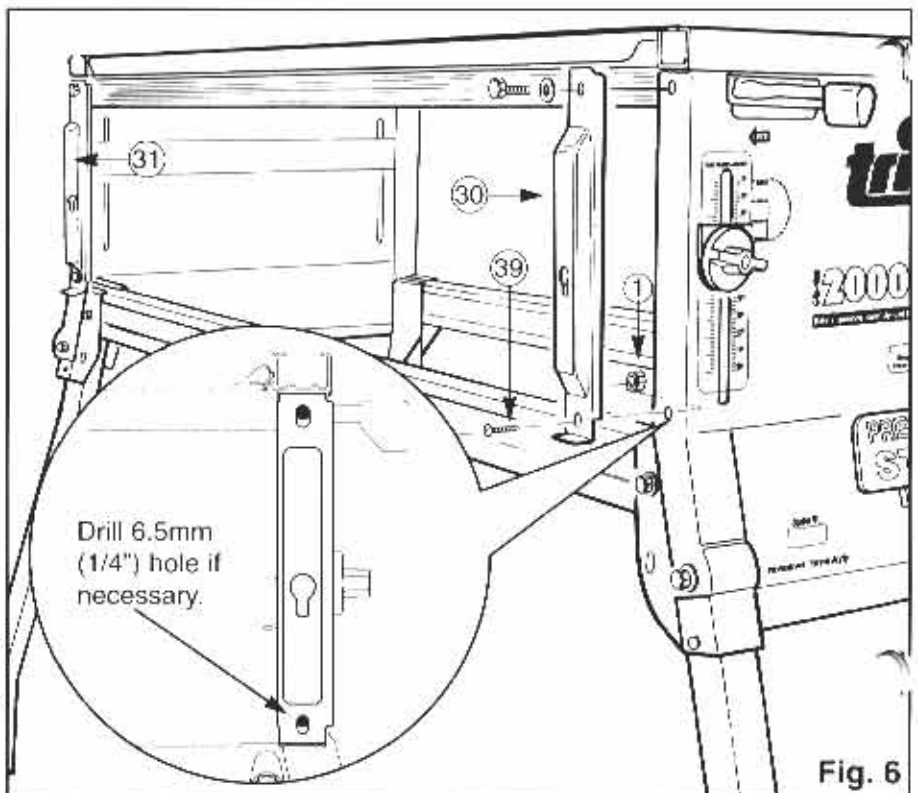

Fig. 6
Fit the End Panel Brackets (30) and (31) to the left-hand side of the Workcentre (when viewed from the front panel, which has the switchbox). The brackets are handed... the long edge flanges should wrap around the faces of the end panels. See Fig. 6.
Note: if you have a MK3 Workcentre or an early Series 2000 Workcentre (pre-305000 serial no.) you will have to drill the lower holes through the end panel flanges. If drilling, make sure you position the holes as shown in the inset in Fig. 6, to give you the full range of height adjustment in the bracket. Centre punch the hole positions and drill 1/4" or 6.5mm holes.